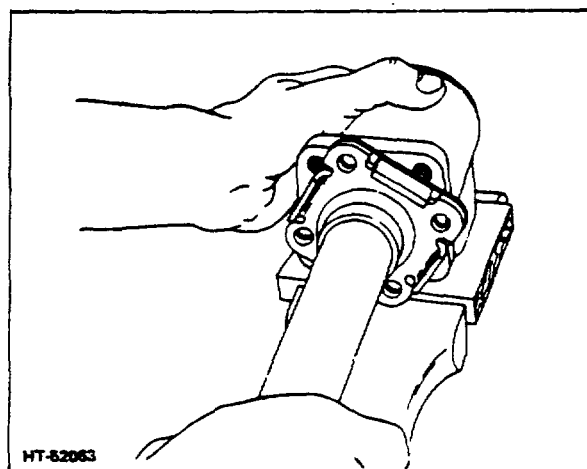

Figure 3-5. Checking Control Spool Rotation
8. Remove control assembly from vise, and check for free rotation of the control spool and sleeve parts with the column shaft (Fig 3-5).